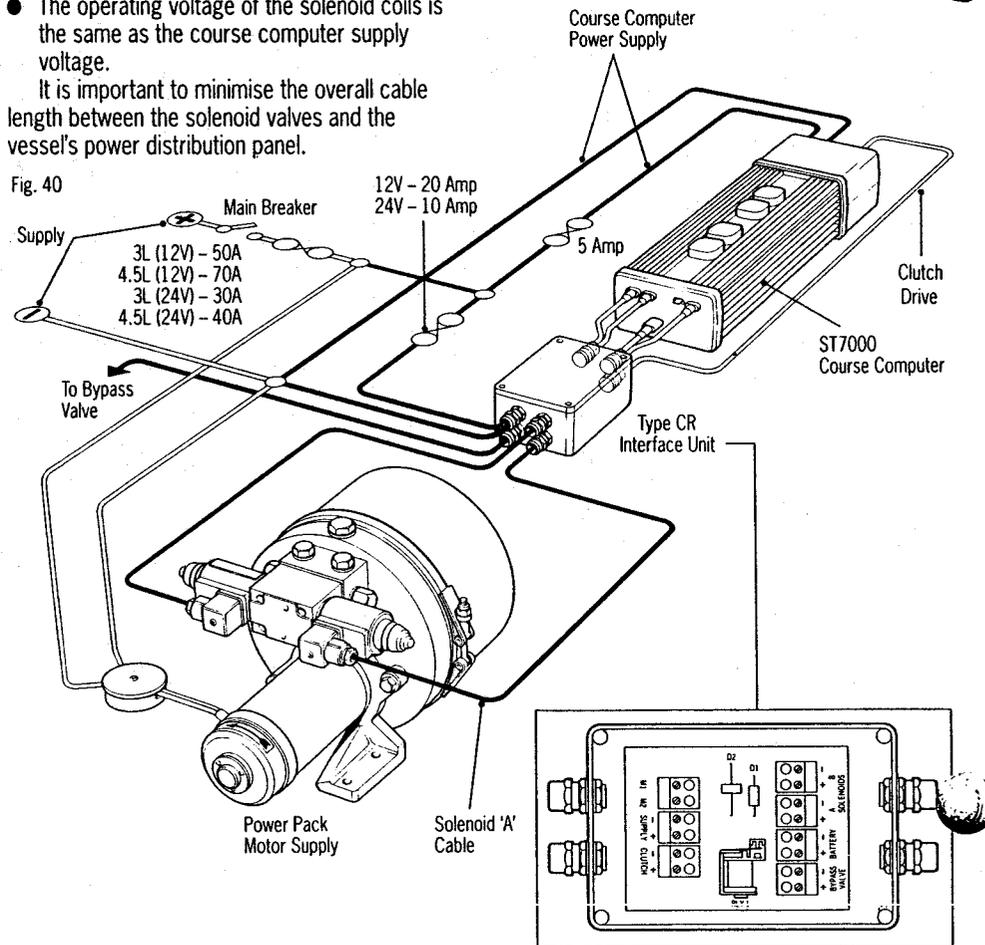

Fig. 40
2.3.5 Type CR Installations (Fig.40)
The supply cable must be protected by a fuse or current overload trip switch as shown in Fig.40.
An isolator switch and circuit breaker (Fig 40) should be installed to supply power to the complete system. The lighter power supply leads for the electronic power supply and solenoid drive amplifier should be independently fused (see Fig. 40).